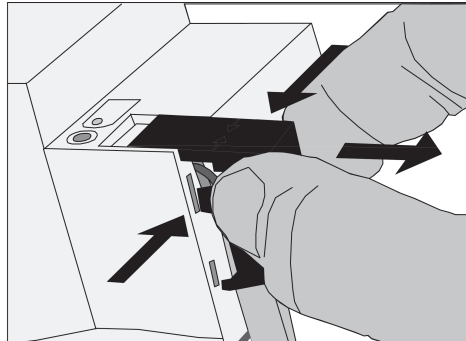

Figure 5: Removing the cover
- Press the cover to the side and pull it off (see figure 5).